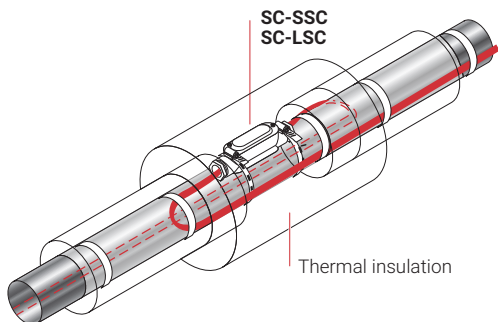

Figure 22: Oversized insulation
- Oversized insulation may be required to limit heat loss over SC components (see Figure 22).